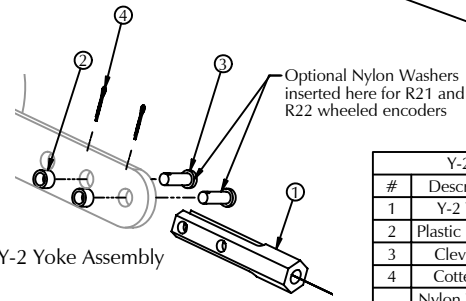

Figure 2: Y-2 Yoke Assembly
1. Assemble the Y-2 yoke assembly on the end of the encoder arm as shown in figure 2.